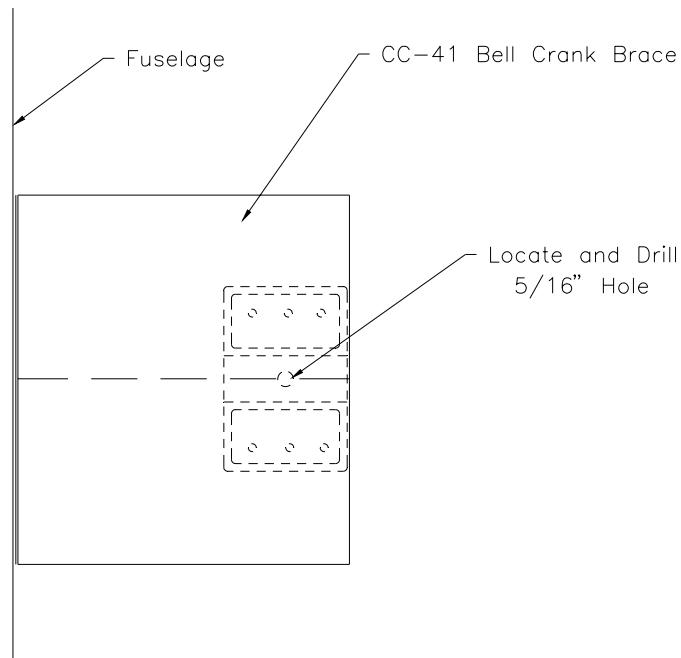

Figure 20.4.7
10) Locate and drill a 5/16" hole along the centerline for the bell crank bolt. Figure 20.4.7.
11) Trim the Bell Crank Brace (CC-41) as in Figure 20.4.7.